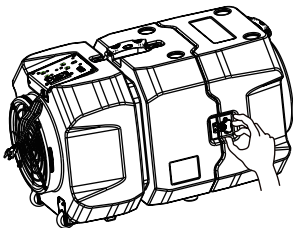

Figure 1
- 1.1 Loosen the butterfly buckle that secures the upper and lower bowls. Separate the upper and lower shells. (Figure 1)
- 2.2 Loosen the butterfly buckle securing the upper and lower shells. Separate the upper and lower shells. (Figure 1)